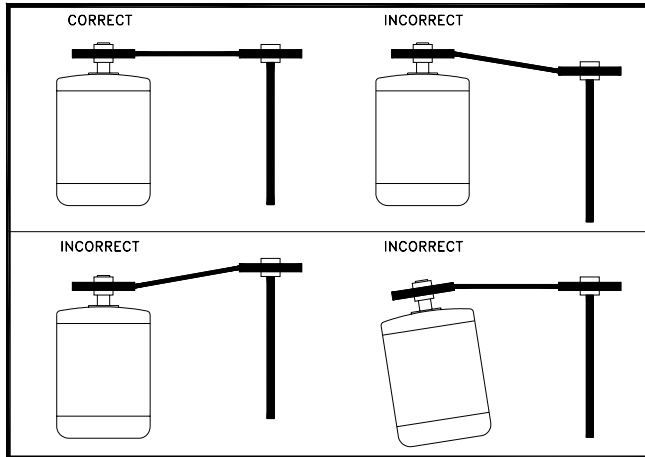

Fig. 12 – Pulley Alignment
4. Ensure pulleys are properly aligned. Refer to Fig. 12
Pulley alignment is adjusted by loosening the motor pulley setscrew and by moving the motor pulley on the motor shaft, or by moving the entire motor along the motor mounting bracket. Fig. 12 illustrates correct and incorrect pulley alignment.